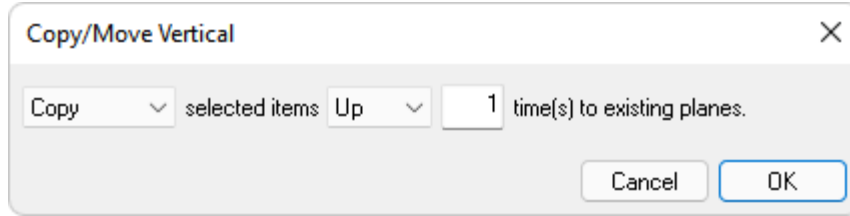

FIGURE 9-140
- Click on the drop-down box labeled *To* and select **Up**. This will change the *Copy/Move Vertical* window to be as shown in **FIGURE 9-140**.